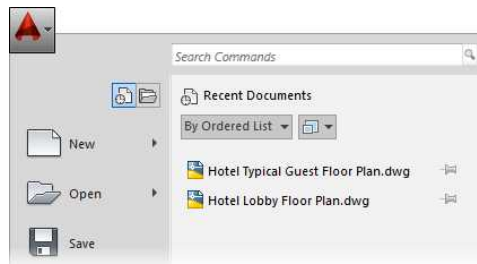

FIGURE 1.25: Displaying the recent documents in the Application menu
3. To open a file that you've worked on recently, click the Recent Documents button at the top of the Application menu's left pane. This displays the most recent files opened in AutoCAD in the right pane, as shown in Figure 1.25.